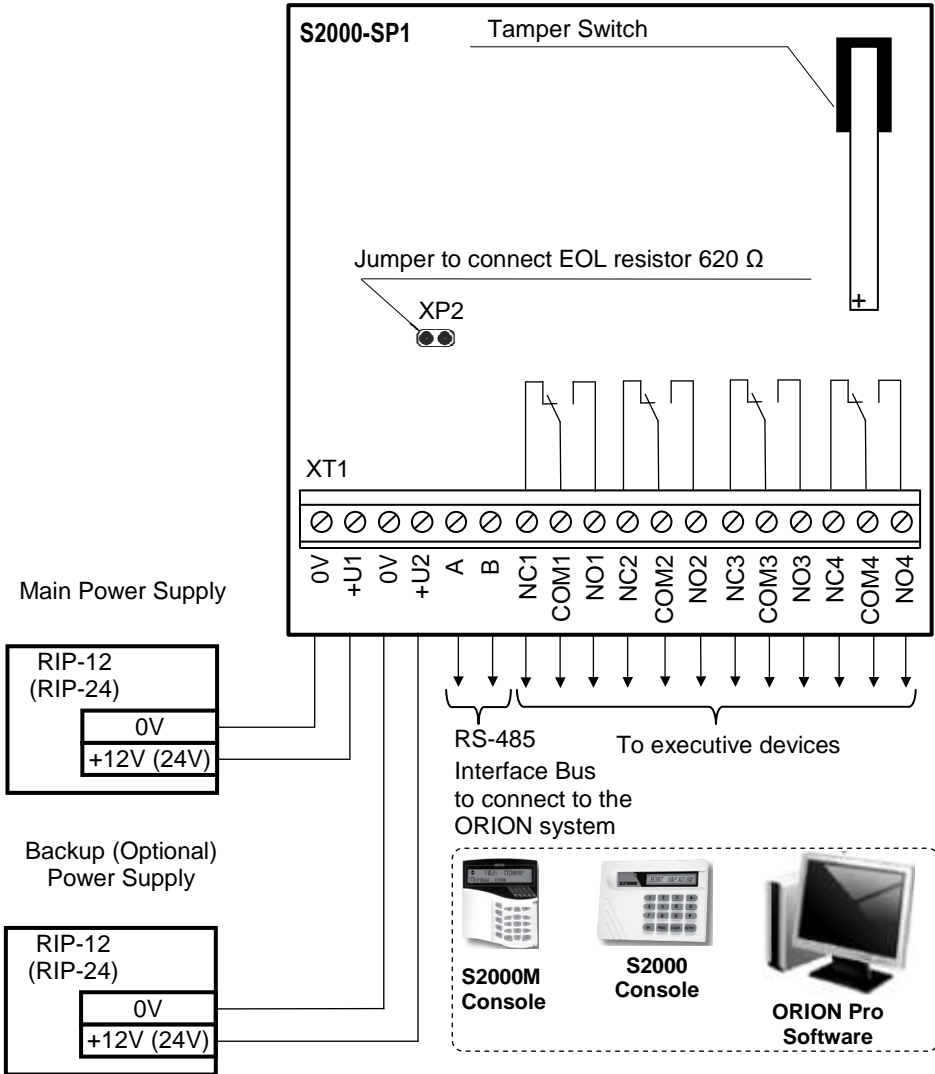

Figure 4. S2000-SP1 Wiring Diagram
2.2 Wiring the module is performed in accordance with Figure 4.
4.1.2 Unless the module is the last or the first device in the RS-485 interface bus, remove the XP2 jumper from the module PCB (see Figure 4).